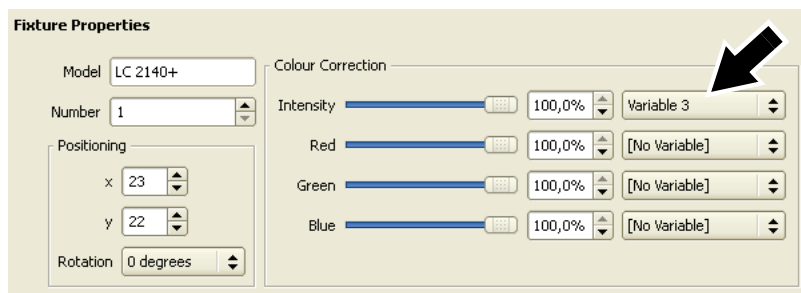

Figure 24: Assigning a *Picture* variable in the Setup window
5. When you have selected the panels you want to control with the **Variable**, look at the **Colour Correction** box at the bottom of the **Setup** window (see Figure 24). Here you can select the **Variable** in the drop-down lists (arrowed) to assign it to control any combination of overall intensity and individual RGB color intensities.
*In Figure 24, only the panel with display number 1 in the installation, an LC 2140+ Model, has been selected, so the **Variable** will only be applied to this panel. **Variable 3** has been selected for **Intensity** and **No Variable** selected for RGB intensities, so Variable 3 will control the overall intensity of panel 1.*